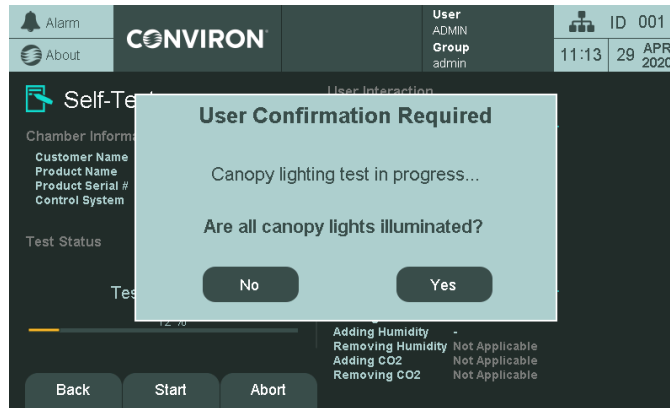

Figure 10-11 Canopy Lights Confirmation Message
7. Upon completing the buzzer test, the light canopy will then be tested. During this test the lights will continuously transition from 25%, 50%, and 100% intensity. Each light intensity will be active for a period of five seconds. During this test, visually inspect each bulb to verify if it is illuminated and cycling through the three intensities. Click Yes or No to indicate whether or not the lights are functioning correctly (Figure 10-11).